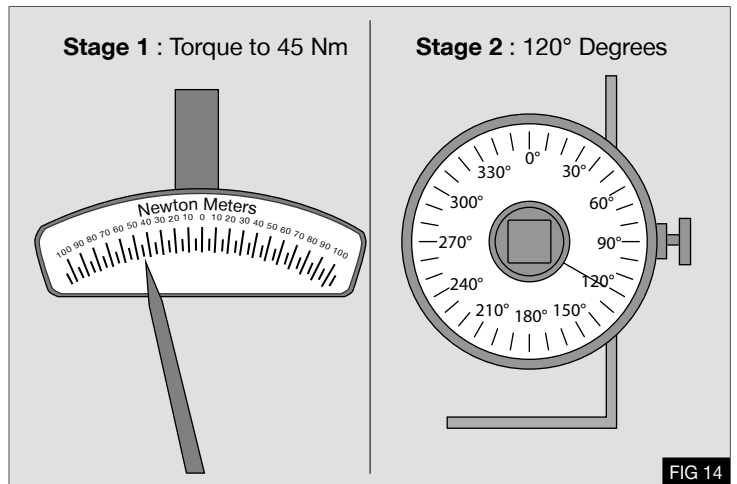

FIG 14
8. Lock the starter ring gear and tighten the bolts (Y) in the following sequence. - Fig 14